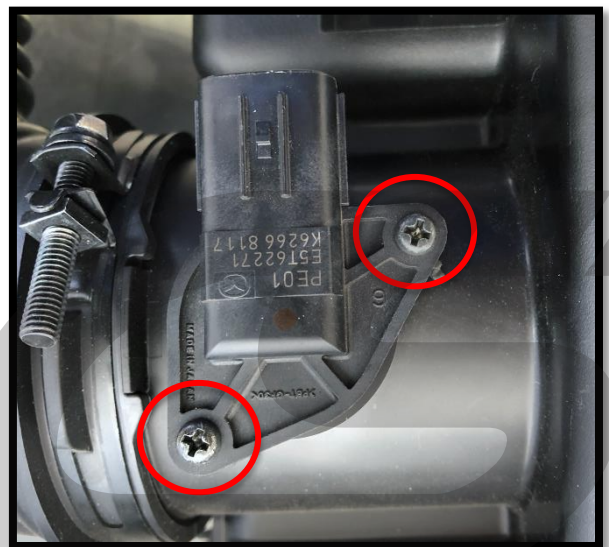

Figure 2a
- a) Remove two Phillips head screws that secure the MAF sensor to the OEM intake. **Circled in red in Figure 2a.**